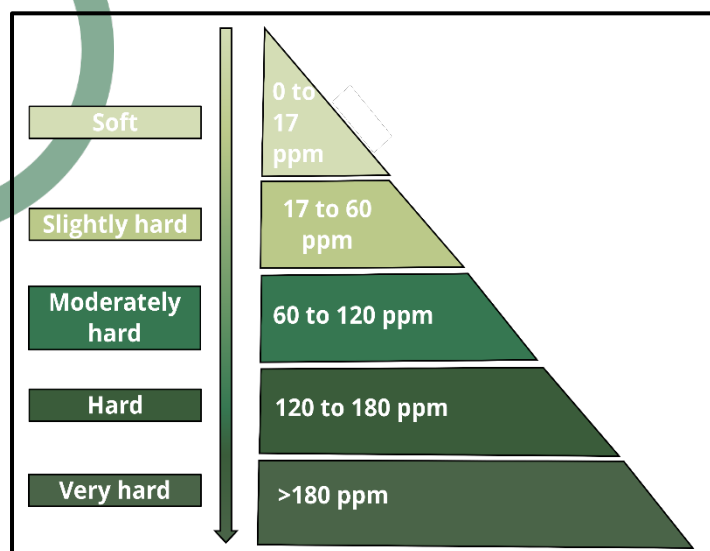

Figure 1. Hardness ranges of water sources, measured in parts per million (ppm) of calcium carbonate (CaCO_3) (USGS, N.D.)
- 'Hard water' refers to water with high concentrations of dissolved minerals, specifically calcium and magnesium ions (**Figure 1**).